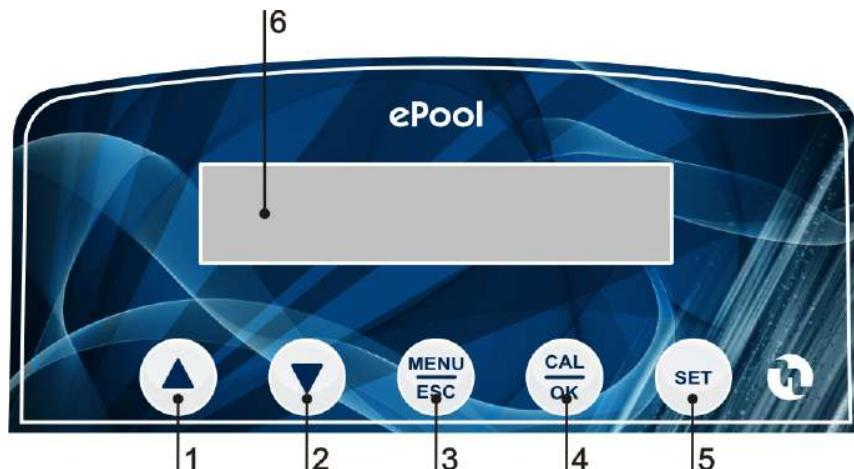

Fig. 4 – Pannello Comandi
Slide the hoses over the nipples, pushing them right home and then fix them with appropriate tube nuts (Fig.4).
Press in the same time arrow up (1) and arrow down (2), (fig. 4).
With the pump in stand-by at the same time press MENU/ESC (3) and CAL/OK (4) (FIG.4).